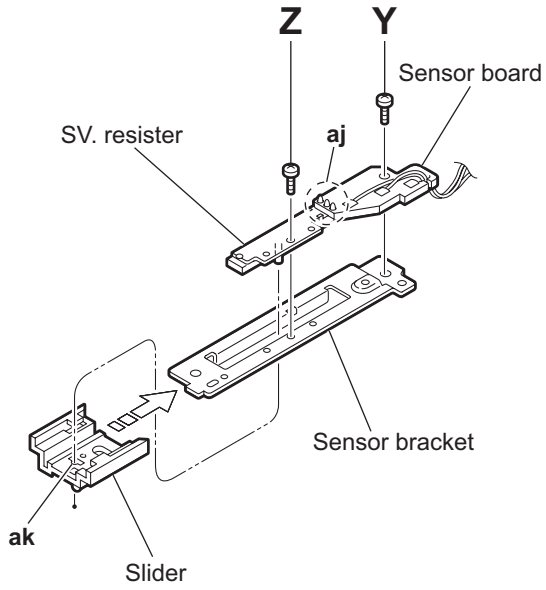

Fig.37
- (5) Remove the screw **Y** and **Z** attaching the sensor board and SV. resister respectively. (See Fig.37.)
Remove the soldered section **aj** on the sensor board as required. (See Fig.37.)